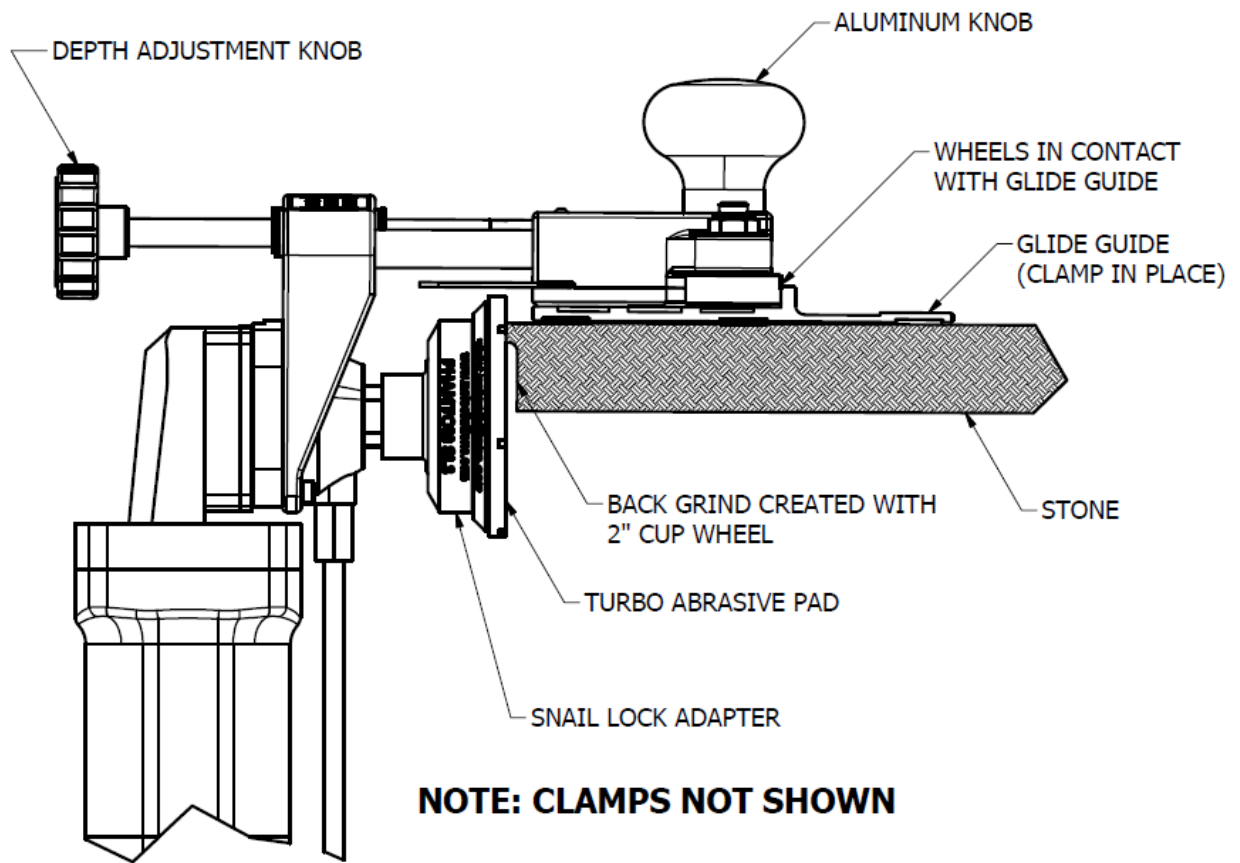

FIGURE 5 - Dressing the Seam
11. Turn the adjustment knob clockwise until the turbo pad just touches the stone and begin grinding the seam back and forth keeping the wheels in contact with the vertical edge of the Glide Guide as shown in Figure 5 below.